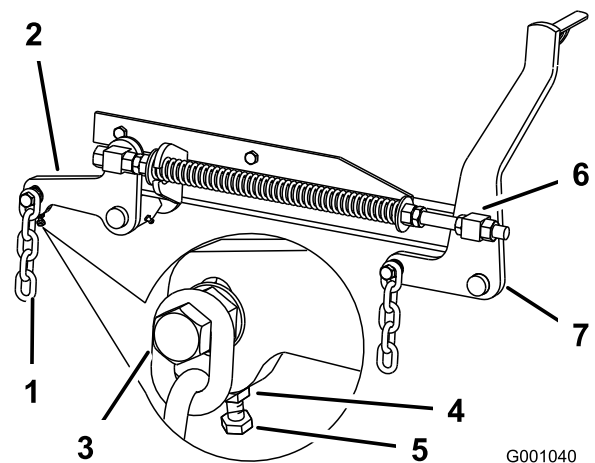

Figure 86
7. If the measurements at positions **B** or **C** are not correct, loosen the bolt attaching the rear chain to the rear support arm (Figure 86).
- Loosen the jam nut under the rear support arm and adjust the adjustment bolt to get a measurement of 3-1/8 to 3-1/4 inches (80 to 83 mm) (Figure 86).
- Loosen the front swivel jam nuts, at the front of the right and left swivels, approximately a 1/2 inch (13 mm) (Figure 86).
(6 to 10 mm) lower in front at **A** than in the rear at **B** (Figure 86).